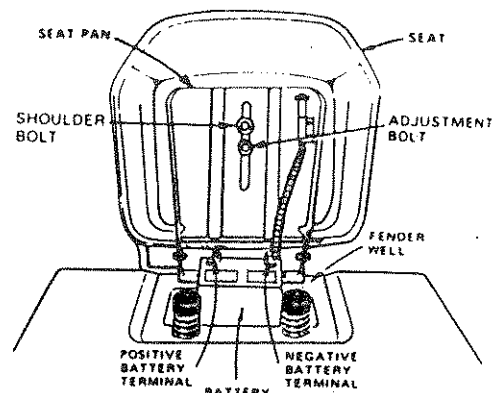

FIGURE 2
- Place seat on seat pan. Screw hex head machine screw, lockwasher and flat washer into seat (Fig. 2). Screw shoulder bolt and flat washer into seat (Fig. 2). Machine screw, shoulder bolt and flat washers found in bag of parts (shown full size on page 6).
- a. Lift seat (Fig. 2).